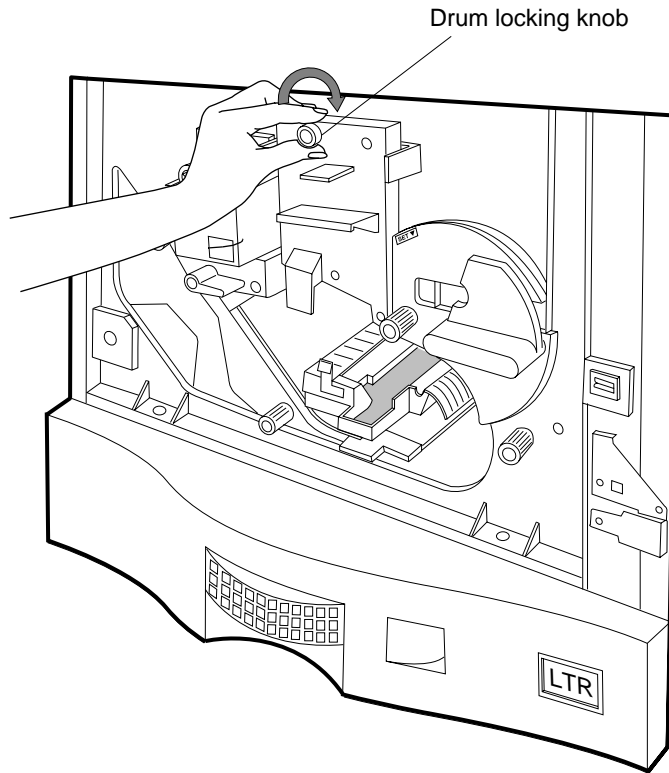

Figure 4-30 Securing the Drum
3. Maintain pressure on the drum and finger-tighten the drum locking knob clockwise to engage the frame and secure the drum as shown in Figure 4-30.